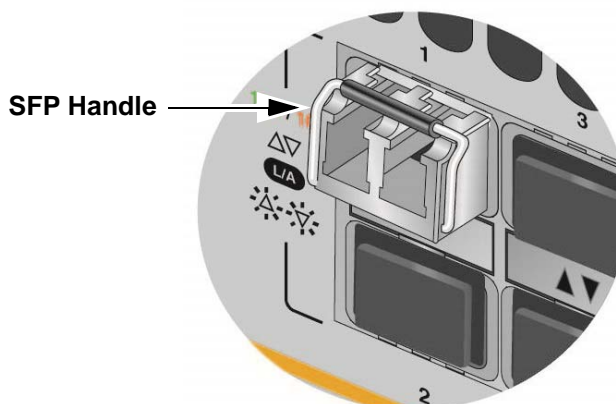

Figure 67. Positioning the SFP or SFP+ Handle in the Upright Position
7. Verify the position of the handle on the transceiver. If the transceiver is in a top slot, the handle should be in the upright position, as shown in Figure 67. If the transceiver is in a bottom slot, the handle should be in the down position.